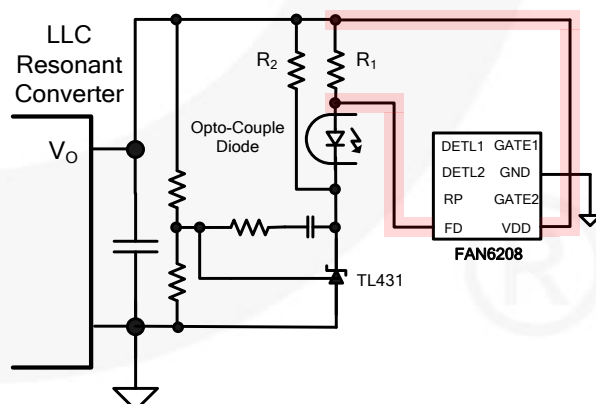
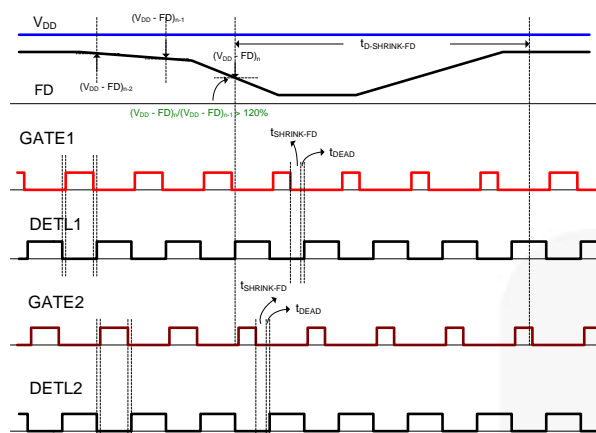
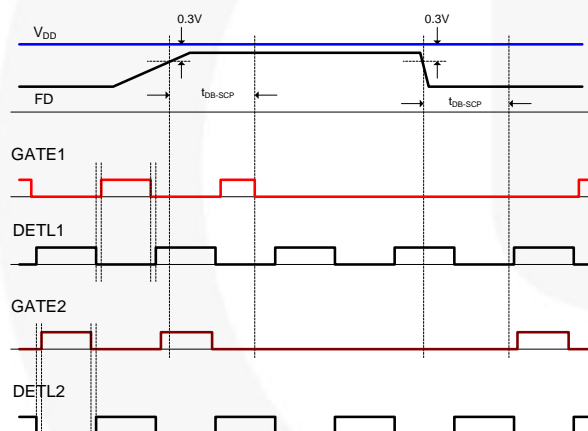

Figure 13. Typical Application Circuit
Figure 14. Gate Shrink by Feedback Detection
Figure 19. Output Short Protection by Feedback Detection
- (b) When the feedback information changes fast. FAN6208 monitors the current through the opto-coupler diode by measuring the voltage across the resistor in series with the opto-coupler diode, as depicted in Figure 13. If the feedback current through the opto-coupler diode increases by more than 20% of the feedback current of the previous switching cycle, the SR gate signal is shrunk by $t_{\text{SHRINK-FD}}$ (about 1.4 μs) for $t_{\text{D-SHRINK-FD}}$ (about 90 μs), as shown in Figure 14.
As depicted in Figure 13, FAN6208 monitors the current through the opto-coupler diode by measuring the voltage across the resistor in series with the opto-coupler diode. When the output of the power supply is short circuited, the output voltage drops and the cathode of the shunt regulator (KA431) is saturated to HIGH. No current flows through the opto coupler diode. The output short protection is triggered when the voltage between V_{DD} and FD is smaller than $0.3\ \text{V}$, as shown in Figure 19.